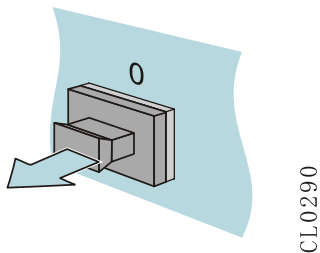

FIGURE 4-7 PULL OUT THE DUST PLUG
- Step 2: Pull out the dust plug on the optical port of the switch, as shown in Figure 4-7.